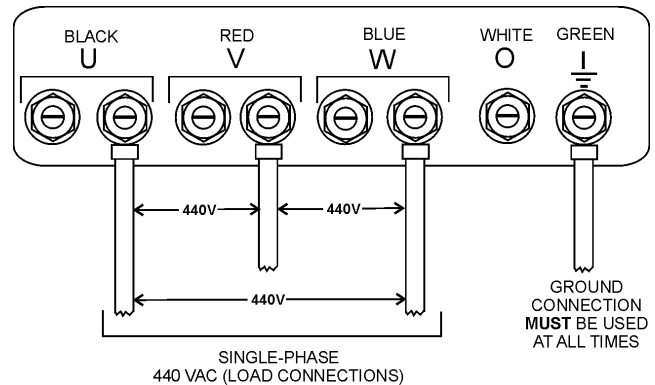

Figure 28. UVWU Terminal Lugs 1Ø-440V Connections
2. Connect the load wires to the UVWU terminals as shown in Figure 28.